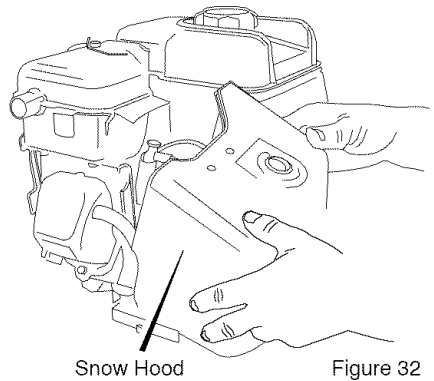

Figure 32
6. Mount the snow hood to the engine and secure with the four mounting screws (see Figure 32).